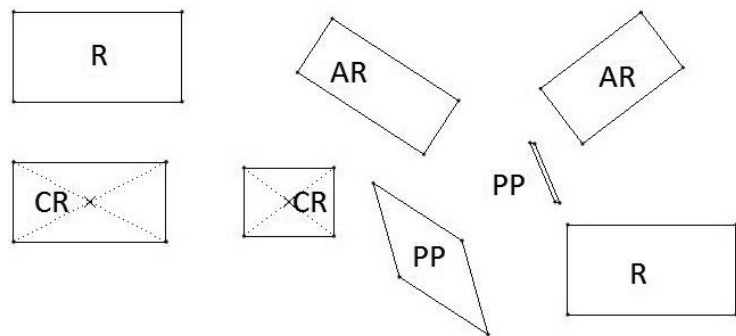

Figure 3-30 Drawing Rectangles
Step 18: Use  to draw two rectangles as shown in Figure 3-30. (R)
Step 19: Use  to draw two angled rectangles as shown in Figure 3-30. (AR)
Step 20: Use  to draw two center-located rectangles as shown in Figure 3-30. (CR)
Step 21: Use  to draw two parallelepipeds as shown in Figure 3-30. (PP)